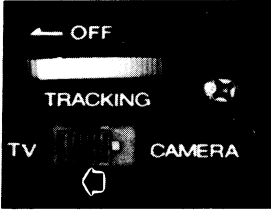
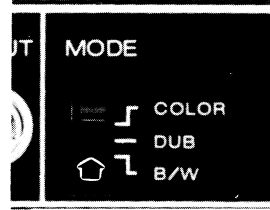

Fig. 1-24
Fig. 1-25
- b. Set the PV-4800U TV/CAMERA switch to TV (Fig. 1-24) and the Mode selector to COLOR (Fig. 1-25).